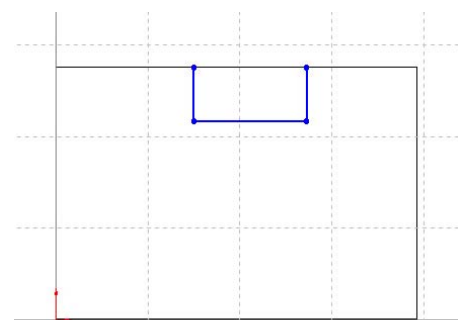

Figure 9 Rectangular Cut Sketch
- 5) Select **Line**  on the Sketch Tools toolbar to draw 3 lines as shown in Figure 9.